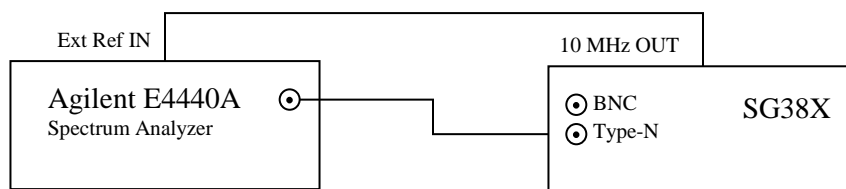

Figure 6: Setup for frequency generation tests.
Frequency generation tests verify that basic frequency synthesis of the device under test is operating correctly. This is accomplished by measuring the output frequency of the SG380 series generator at several specific frequencies from DC to 6 GHz. The specific frequencies selected in the test guarantee that all crystals within the device under test are functioning properly and that all phase locked loops are locked and stable. The Agilent E4440A PSA spectrum analyzer is used to verify frequency synthesis. This test requires the setup shown in Figure 6.
1. Connect the equipment as shown in Figure 6